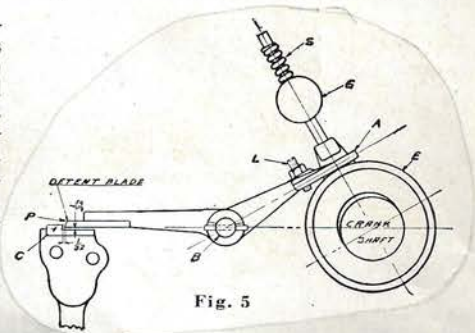
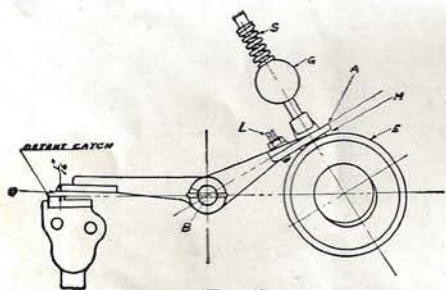

Fig. 5
Fig. 6
G1. The governor on the 3½ H. P. Model NC Engine is the hit and miss type, that is the number of explosions is in proportion to the load on the engine. The accompanying drawings (Figures 5 and 6) show the action of the governor.
G2. When the engine is running, centrifugal force causes the governor weight (G) to move outward. When the proper set speed is reached, the extreme outward movement of the governor weight (G) brings the face of the governor eccentric collar (E) in contact with end of the detent finger (A) and forces it upward. As (A) is pivoted at (B) then point (P) is forced into the detent catch (C). With the governor weight (G) in this position (see Figure 5), the exhaust push rod is held forward keeping the exhaust valve open. With the exhaust valve open, no suction is produced by the movement of the piston, therefore, no charge is drawn into the cylinder. With a load on the engine, the speed will quickly lower slightly and the governor spring (S) will push the governor weight (G) nearer the shaft (see Figure 6). With governor weight in this position, the coil detent spring will raise point (P) out of the catch and then allow the roller to follow the cam (see Figure 6) allowing the exhaust valve to close and a charge to be drawn into the cylinder. The power from this explosion tends to increase the speed causing the governor weight (G) to move outward and again force the detent point (P) into the catch (C), (Figure 5). When the engine is heavily loaded it may require several successive explosions to bring the engine up to the set-speed.
Turn the flywheel until the detent catch (C) moves toward the head of the engine in position as shown in Figure 5. At this position the point (P) of detent finger can be pushed into catch (C). There should be a clearance of one thirty-second of an inch between the point of the detent (P) and the edge of the catch (C). If the clearance is less, grind point (P) to give proper clearance. Be sure to grind detent point at proper angle. Next take hold of governor weight (G) and pull it outward toward rim of flywheel, this will force detent finger point (P) into catch (C). With governor weight pulled out, there should be a clearance of one-thirty-second of an inch between the lower face of the detent blade or point and the face of the detent catch.
G4. On 3½ H. P. Model NC Engines, turn flywheel until detent (C) is in position as shown in Figure 6. Then place a piece of cardboard